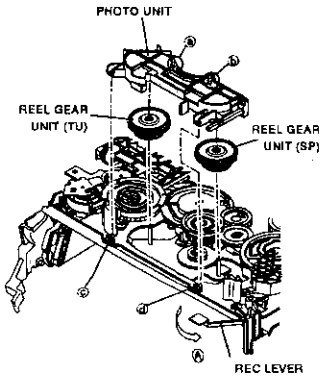

Fig. 2-22-1
- 1 Move the REC LEVER shown in Fig. 2-14-1 in the direction shown by arrow (A). Unfasten the two catches (a) and (b) of the PHOTO UNIT and the two catches (c) and (d) of the MAIN PLATE ASSY shown in Fig. 2-22-1 to remove the PHOTO UNIT.
- 2 Remove the REEL GEAR UNIT (TU) shown in Fig. 2-22-1.
- 3 Remove the REEL GEAR UNIT (SP) shown in Fig. 2-22-1.
- 4 Install the REEL GEAR UNIT (TU) shown in Fig. 2-22-1.
- 6 Install the PHOTO UNIT shown in Fig. 2-22-1.